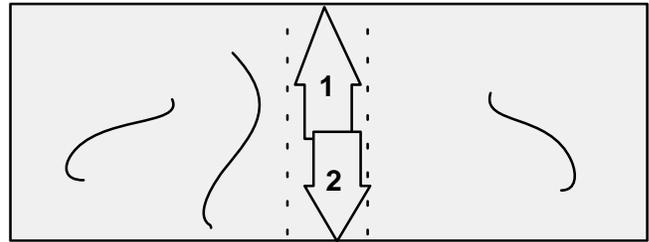

Figure 4. Squeegeeing the Center of a Large Graphic
- Use a large window squeegee and very light pressure to smooth out the entire graphic, starting at the center and working toward the edge, in the order shown in Figure 4. When you finish this step, the film should be flat on the substrate and most of the water pushed out.